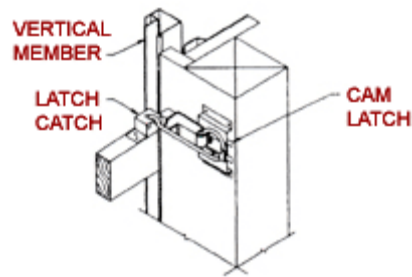

FIGURE 21
- 4.) Keep slot for hook in line with hook on latch. (See Fig. 21)